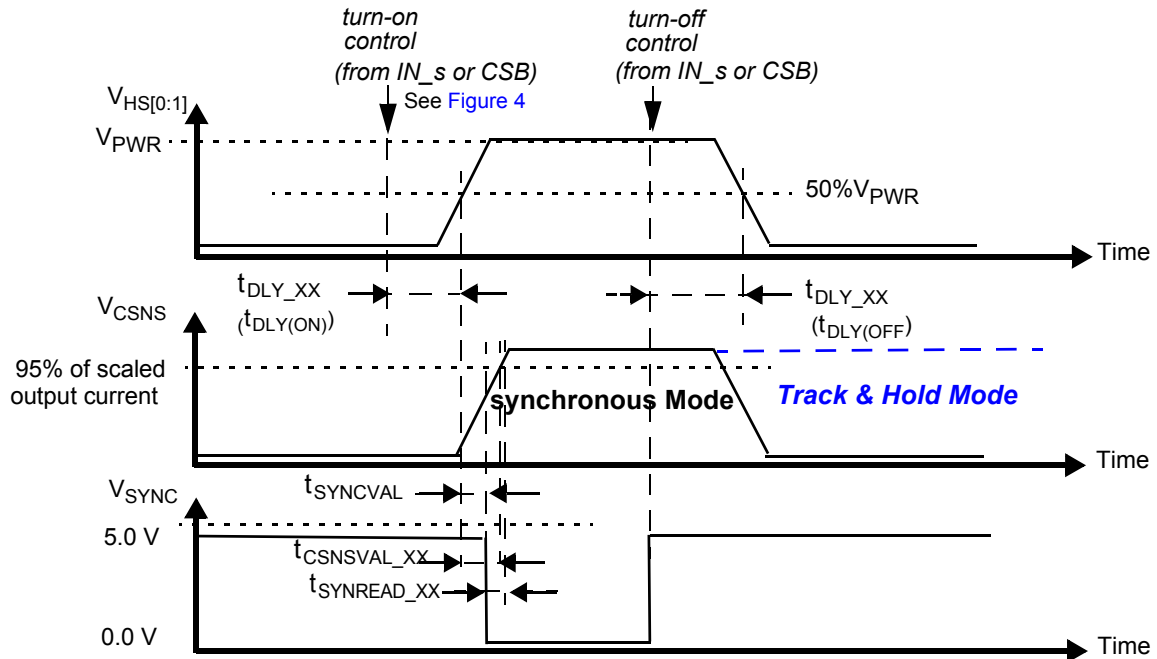

Figure 9. Synchronous and track-and-hold current sensing modes: associated delay & settling times
30. Time required to switch off the channel after detection of overtemperature (OT), overcurrent (OC), SC or UV error (time measured between start of the negative edge on the FSB pin and the falling edge on the output voltage until $V(\text{HS}[0:1]) = 50\%$ of V_{PWR}).
31. Settling time (= $t_{CSNSVAL_XX}$), SYNC output signal delay (= $t_{SYNCVAL_XX}$) and Read-out delay (= $t_{SYNREAD_XX}$) are defined for a stepped load current ($100\text{ mA} < I(\text{LOAD}) < I_{OCLX_A}$ FOR $\text{CSNS_RATIO_S} = 1$, AND $300\text{ mA} < I(\text{LOAD}) < I_{OCLX_A_0}$ FOR $\text{CSNS_RATIO_S} = 0$). (see Figure 9 and Output current monitoring \(CSNS\))
The CS pin allows independent current monitoring of channel 0 or channel 1 up to the steady-state overcurrent threshold. It can also be used to sense the device temperature. The different functions are selected by setting bits CSNS1_en and CSNS0_en to the appropriate value (Table 23). When the CSNS pin is sensed during switch-off in the (optional) track & hold mode (see Figure 9), it outputs the scaled value of the load current as it was just before turn-Off. When several devices share the same pull-down resistor, the CSNS pins of devices the current of which is not monitored must be tri-stated. This is accomplished by setting CSNS0_en = 0 and CSNS1_en = 0 in the GCR register (Table 10). Settling time ($t_{CSNSVAL_XX}$) is defined as the time between the instant at the middle of the output voltage's rising edge ($HS[0:1] = 50\%$ of V_{PWR}), and the instant at which the voltage on the CSNS-pin has settled to $\pm 5.0\%$ of its final value. Anytime an overcurrent window is active, the CSNS pin is disabled (see Overcurrent detection on resistive and inductive loads). The current and temperature sensing functions are unavailable in Fail-safe mode and in Normal mode when operating without the V_{DD} supply voltage. In order to generate a voltage output, a pull-down resistor is required ($R(CSNS)=1.0$ k Ω typ. and $470 < R(CSNS) < 10$ k). When the current sense resistor connected to the CSNS pin is disconnected, the CSNS voltage is clamped to $V_{CL(CSNS)}$. The CSNS pin can source currents up to about 5.6 mA.
To synchronize current sensing with an external process, the SYNC signal can be connected to a digital input of an external MCU. SYNC is asserted logic low when the current sense signal is accurate and ready to be read. The current sense signal on the CSNS pin has the specified accuracy $t_{SYNREAD_XX}$ seconds after the falling edge on the SYNC pin (Figure 9) and remains valid until a rising edge is generated. The rising edge that is generated by the SYNC pin at the turn-OFF instant (internal or external) may also be used to implement synchronization with the external MCU. Parameter t_{SYNVAL_XX} is defined as the time between the instant at the middle of the output-voltage rising edge ($HS[0:1] = 50\%$ of V_{PWR}), and the instant at which the voltage on the SYNC-pin drops below 0.4 V (V_{SOL}). The SYNC pins of different devices can be connected together to save μ -controller input channels. However, in this configuration, the CSNS function of only one device should be active at a time. Otherwise, the MCU does not determine the origin of the SYNC signal. The SYNC pin is open drain and requires an external pull-up resistor to VDD.